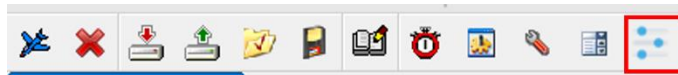

Fig. 3.2. UDD Icon Location
5. If “User Defined Data” (UDD) is selected in the “Test Options” menu, select the “User Defined Data” icon in the taskbar on the top of the screen, as marked in red in Fig. 3.2 below.